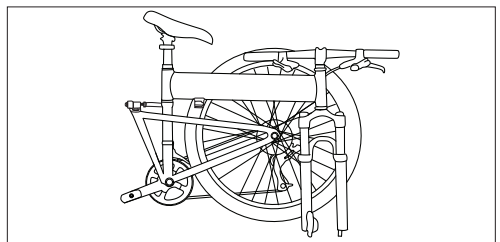

Fig. 38: Folded bike.
8. If done correctly, the bike should resemble Fig. 38 with the handlebars secured between the rear wheel and the boom tube.